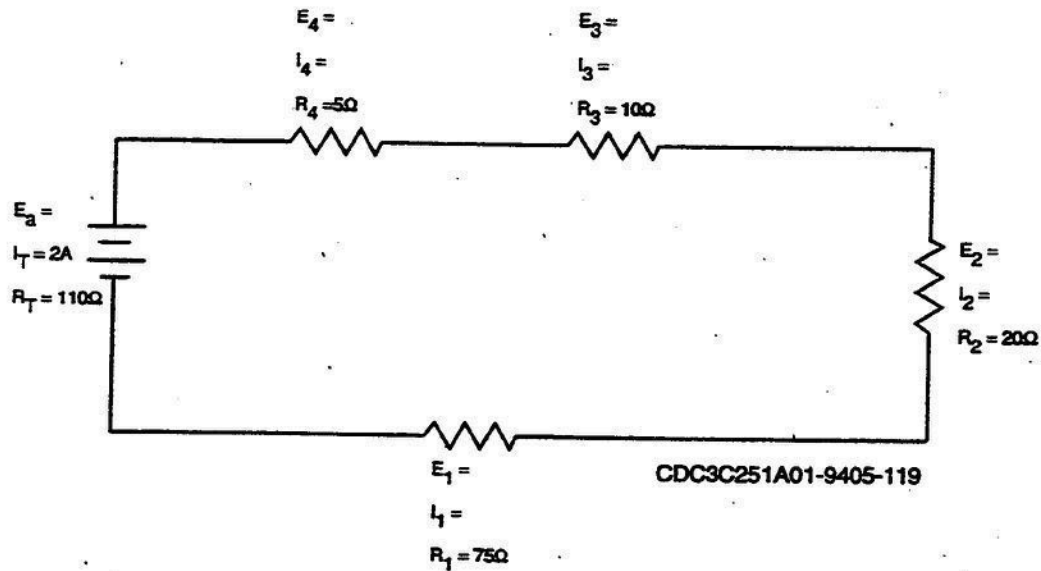

Figure 2-51. Lesson 023, self-test question 2.
2. Using the circuit in figure 2-51, calculate the unknown values. Record your calculations here.